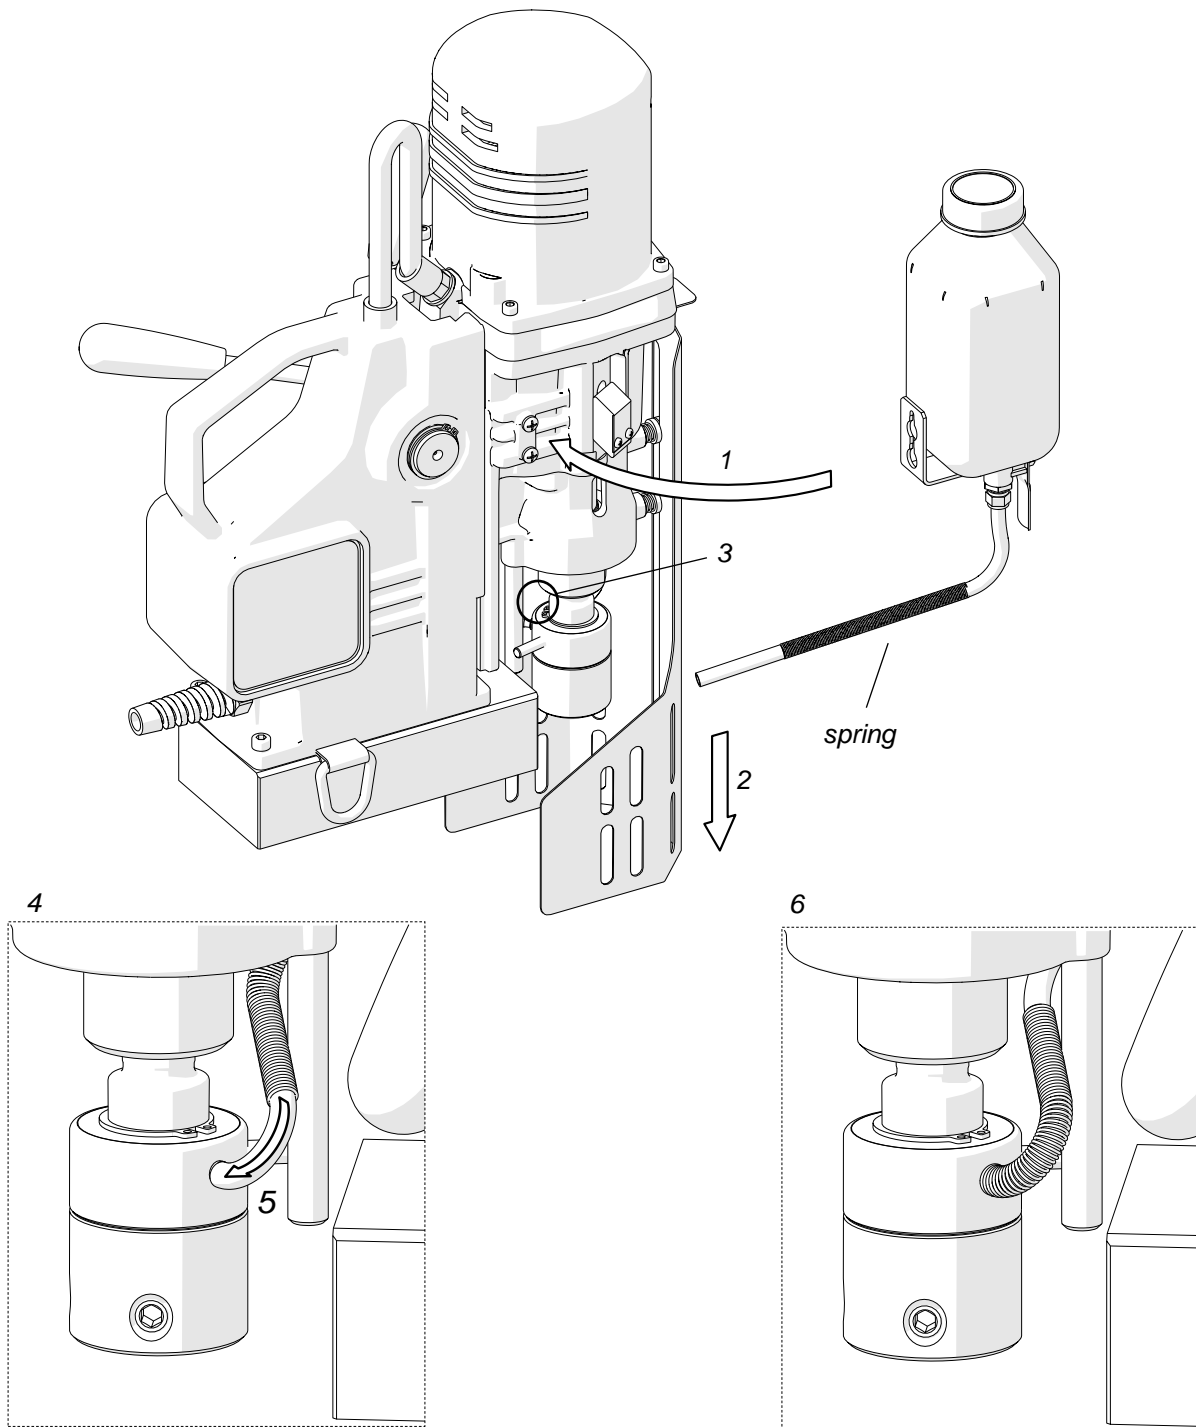

Fig. 7. Installing the cooling system bottle
Hang the cooling system bottle on the screws (1, Fig. 7), lower the chip guard (2), and then insert the hose with the protective spring positioned as in the figure below, between the vertical rod and the arbor (3). Next, attach the bottle hose to the hose fitting (4) and slide the spring to the hose end (5) to rest the spring on the arbor (6).